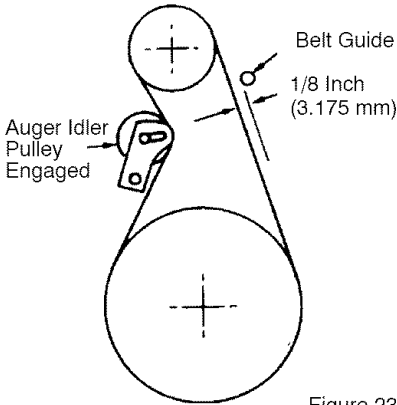

Figure 23
3. Measure the distance between the belt guide and belt. The distance should be  $\frac{1}{8}$  inch (3.175 mm) for guide. See Figure 23.